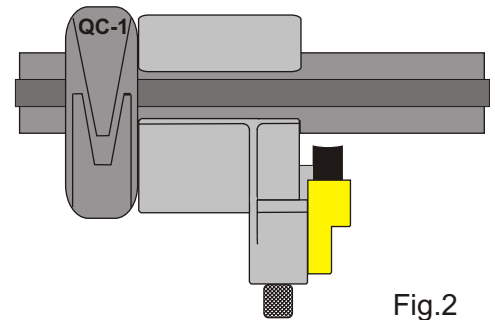

Fig.2
2. Place the QC-1 on the cable. The QC-1 is placed on opposite side of blade. Tighten clamp securely and abut the tool against the clamp. Note that the blade is retracted. (Fig.2)